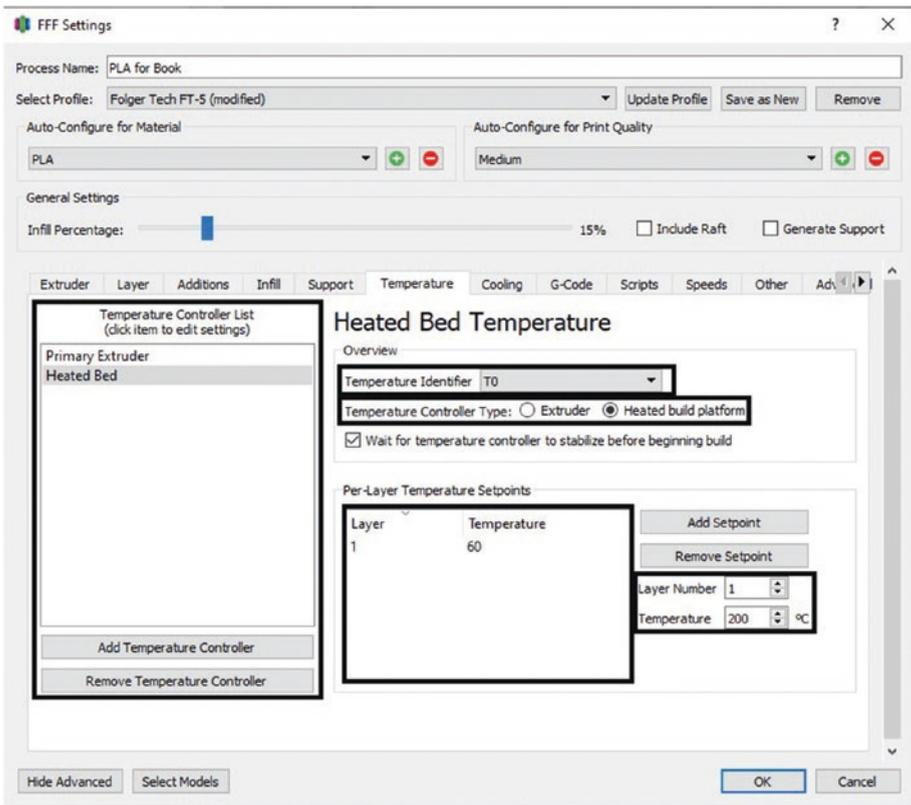

Figure 4-24. Temperature tab
6. Tab 6: Temperature (see Figure 4-24)